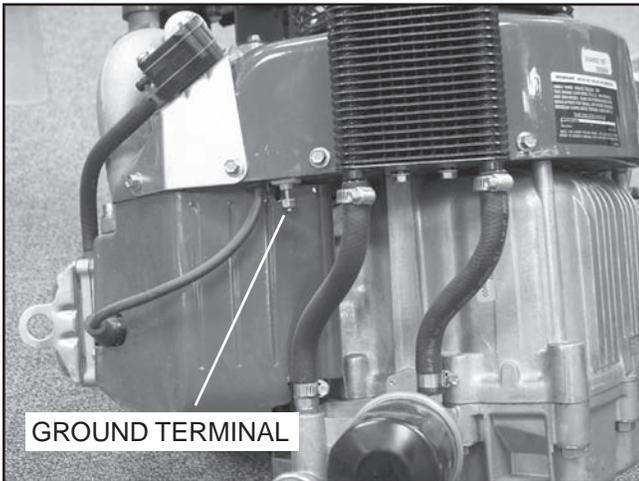

Figure 13-19. Ground Terminal
- c. Connect ignition ground wire to ignition ground terminal in backing plate (see Figure 13-19).